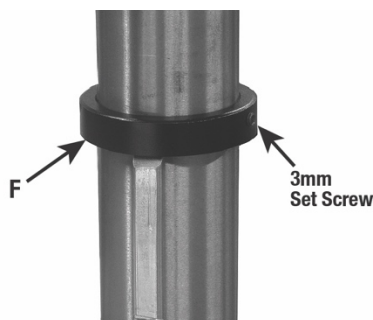

Figure 6-8
4. Place the rack ring (F) over the top of the column and slide it down over the top end of the rack. Tighten the 3mm set screw to secure the rack ring in place. See Figure 6-8.